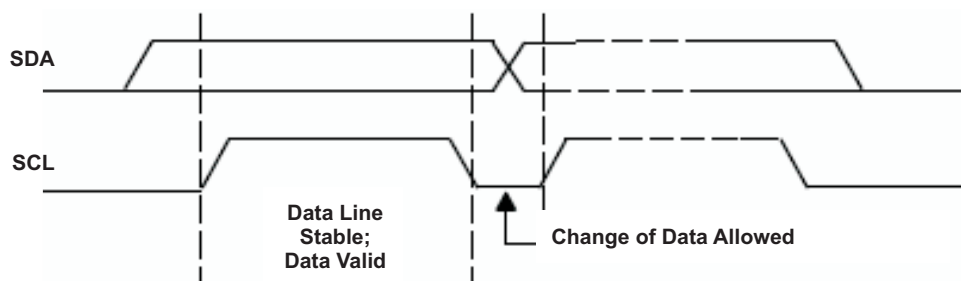
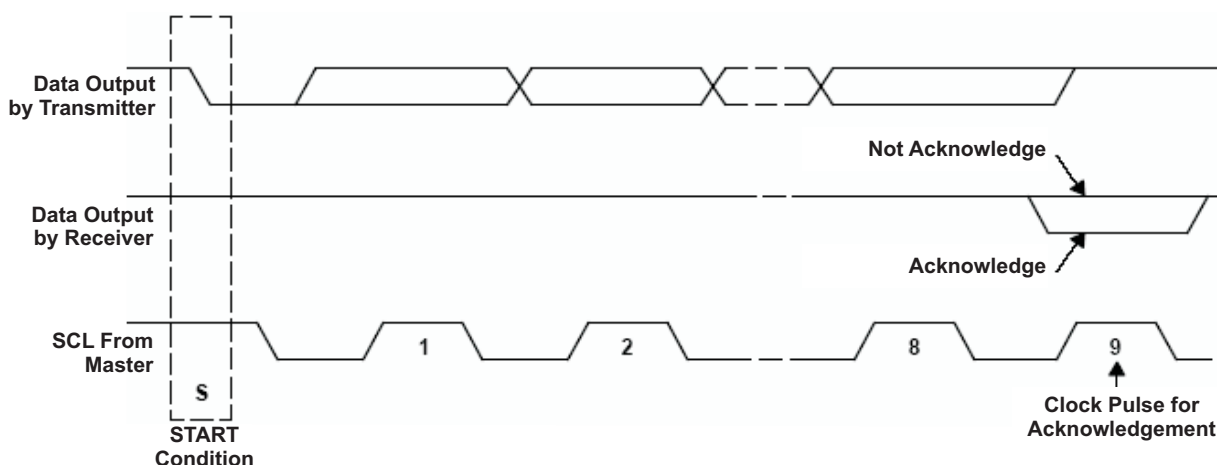

Figure 24. I²C Bit Transfer
Figure 25. I²C Acknowledge
- The master initiates data transfer by generating a *start condition*. The *start condition* is when a high-to-low transition occurs on the SDA line the SCL line is high, as shown in Figure 25. All I²C-compliant devices should recognize a *start condition*.
- The master generates the SCL pulses and transmits the 7-bit address and the *read/write direction bit* R/W on the SDA line. During all transmissions, the master ensures that data is *valid*. A *valid data* condition requires the SDA line to be stable during the entire high period of the clock pulse (see Figure 24). All devices recognize the address sent by the master and compare it to their internal fixed addresses. Only the slave device with a matching address generates an *acknowledge* (see Figure 25) by pulling the SDA line low during the entire high period of the ninth SCL cycle. On detecting this acknowledge, the master knows that a communication link with a slave has been established.